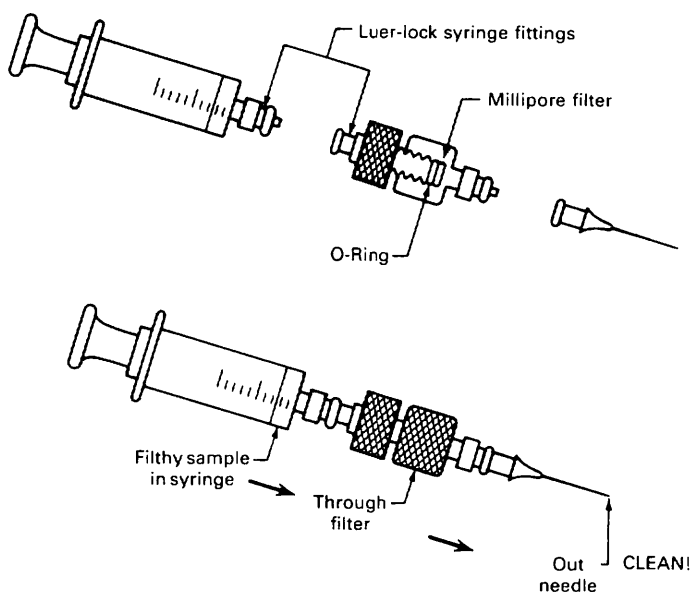

Fig. 145 The Swinney adapter and syringe parts. (Note Luer Lock.)
1. **The Swinney adapter** (Fig. 145). This handy unit locks onto a syringe *already* filled with your sample. Then you push the sample *slowly* through a Millipore filter to trap insoluble particles. This does *not*, however, get rid of **soluble tars** that can ruin the column. (Oh. Don't confuse the filters with the papers that separate them. It's embarrassing.)